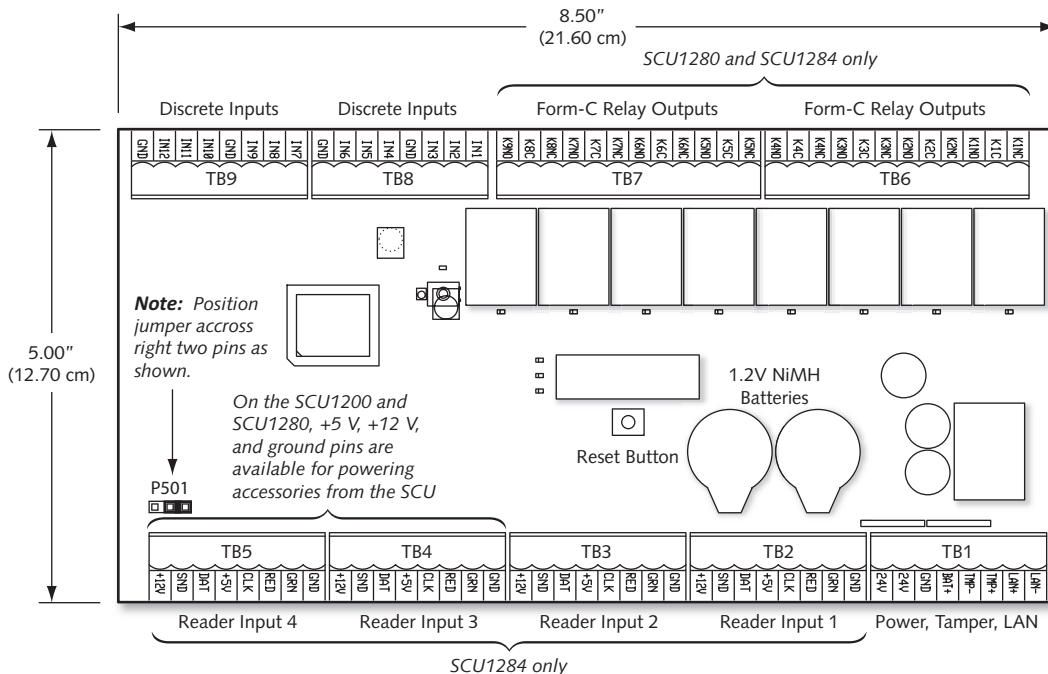

Figure 1. SCU Controller
**Note:** Position P501 jumper across right two pins as shown in Figure 1 on first page.